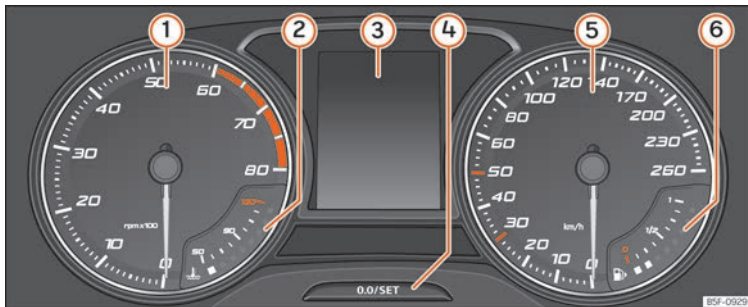

Fig. 70 Instrument panel, on dash panel.
Details of the instruments »»» **Fig. 70:**
- Briefly press the button   **Fig. 70**  to reset the trip recorder to 0.